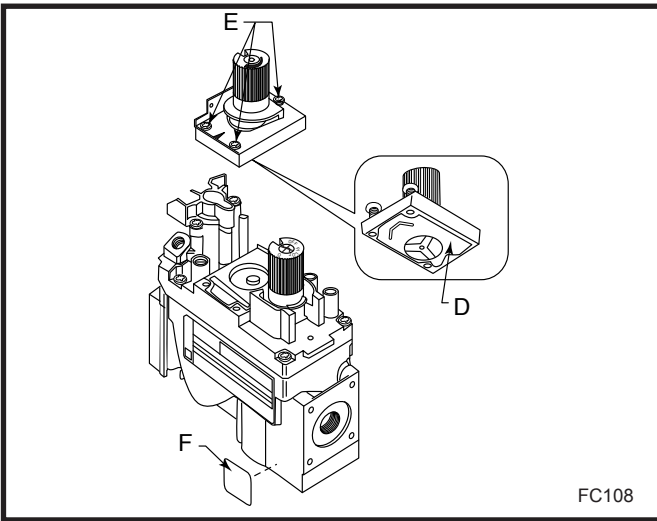

Fig. 56 Replace regulator.
15. Insure the rubber gasket (D) is properly positioned and install the new HI/LO pressure regulator assembly to the valve using the new screws (E) supplied with the kit. Tighten the screws securely. (Ref. torque = 25 in/lb) (Fig. 56)